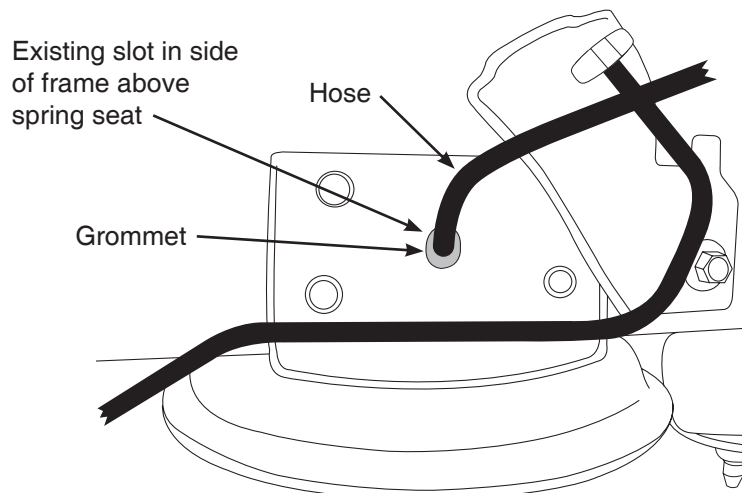

fig. 4
12. Insert the grommet supplied through the slot in the side of the frame above the upper spring retainer (fig. 4). Insert one end of the airline through the grommet, then through the jounce bumper mounting nut (where the jounce bumper was previously removed).